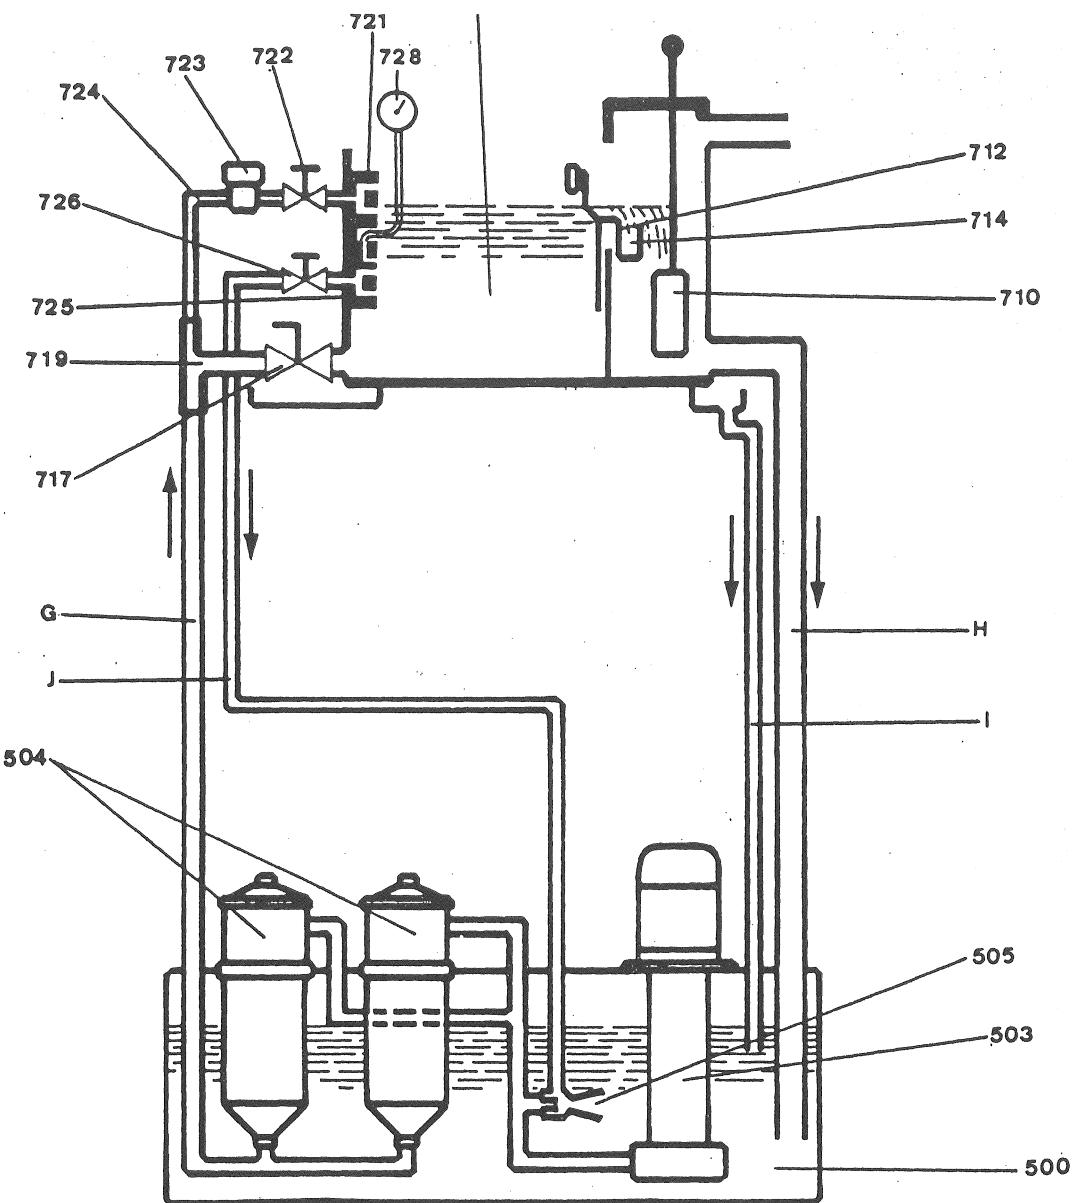

Fig 1
8.11 ELECTRICAL CIRCUIT (fig. 1)